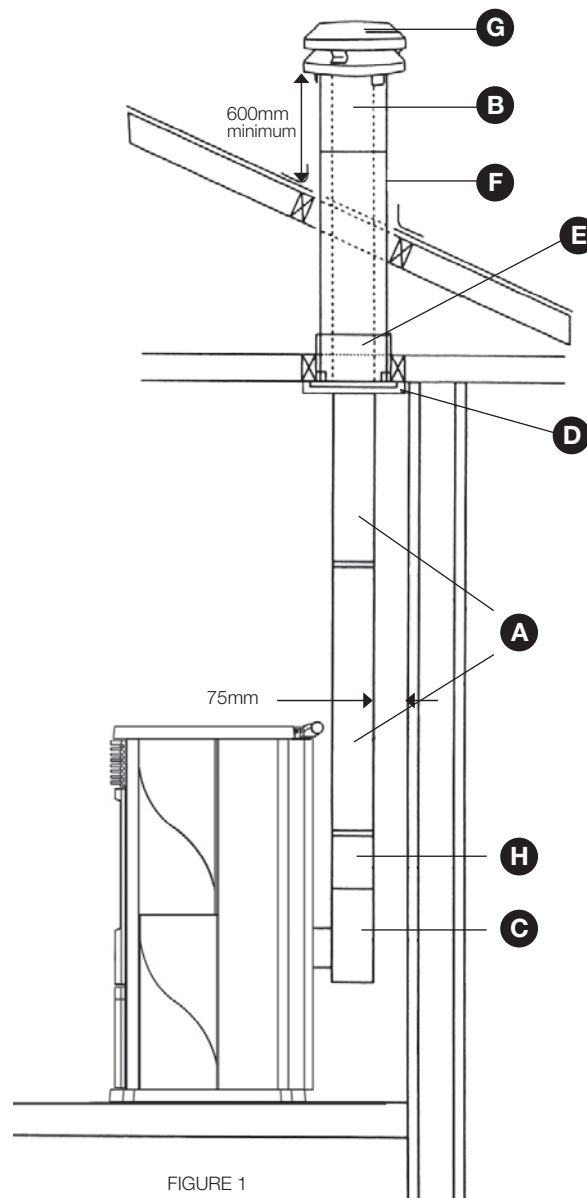

FIGURE 1
- 9d. Taking one of the two painted vent pipes, fit its lower crimped end into the top of the centralizing bend previously fitted to the rear of the pellet fire in item 2. Lower the unpainted vent pipe which is protruding down from the mounting plate so that it fully connects into the lower painted vent pipe. Ensure these two vent pipe sections are firmly connected and aligned, then secure using three stainless steel rivets spaced equally around the joint.
*Note: Ensure the bottom of the cowl is a minimum of 600mm above the roofline as shown in Figure 1*